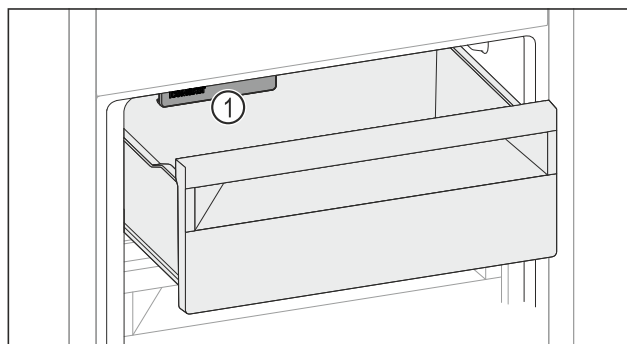

Fig. 159
- Watch out for the IceMaker Fig. 159 (1).